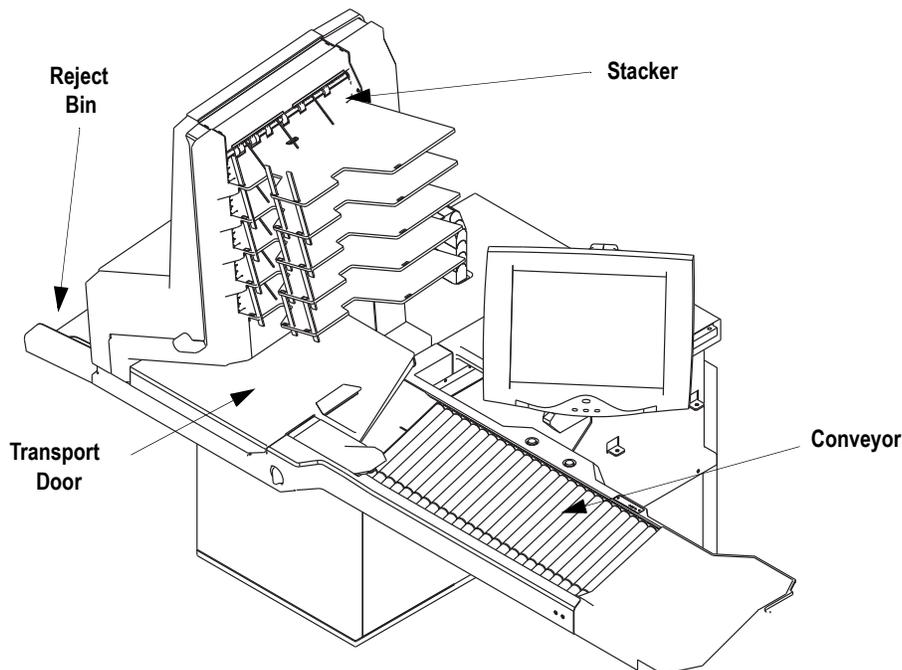

FIGURE 26: Conveyor and Stacker Assembly
- 3 Vacuum dust and debris from the conveyor rollers and the stacker assembly (see Figure 26).